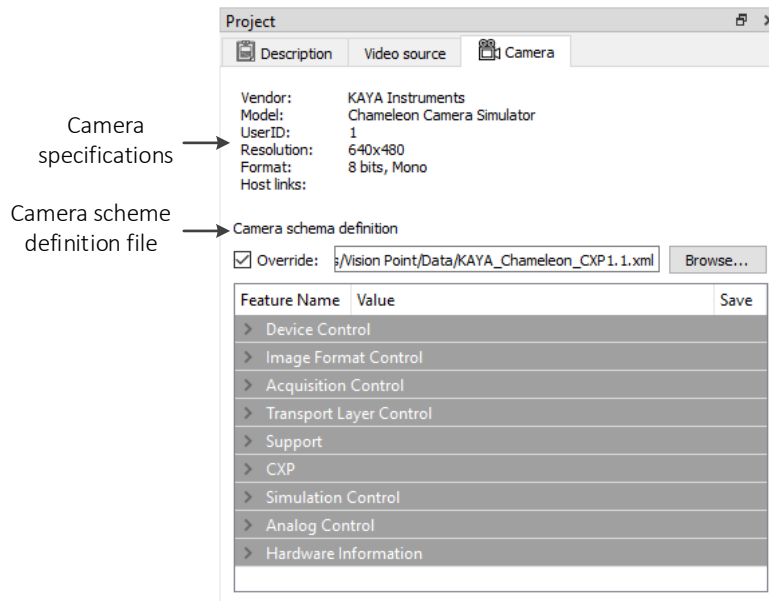

Figure 36 – New project camera parameters
6. (Optional) Choose the Override option and Browse the desirable XML as shown in Figure 36. The latter holds all the camera parameters values.